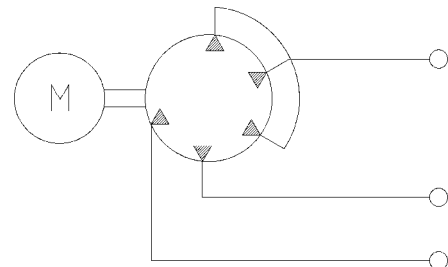

Fig. 34
- In the case of large differences in grease requirement among lubrication points, two or more outlets on the lubricator can be connected together to an outlet line. By virtue of the design of the pump body and the pump units there is no need for non-return valves in the outlets. See Fig. 34 below.